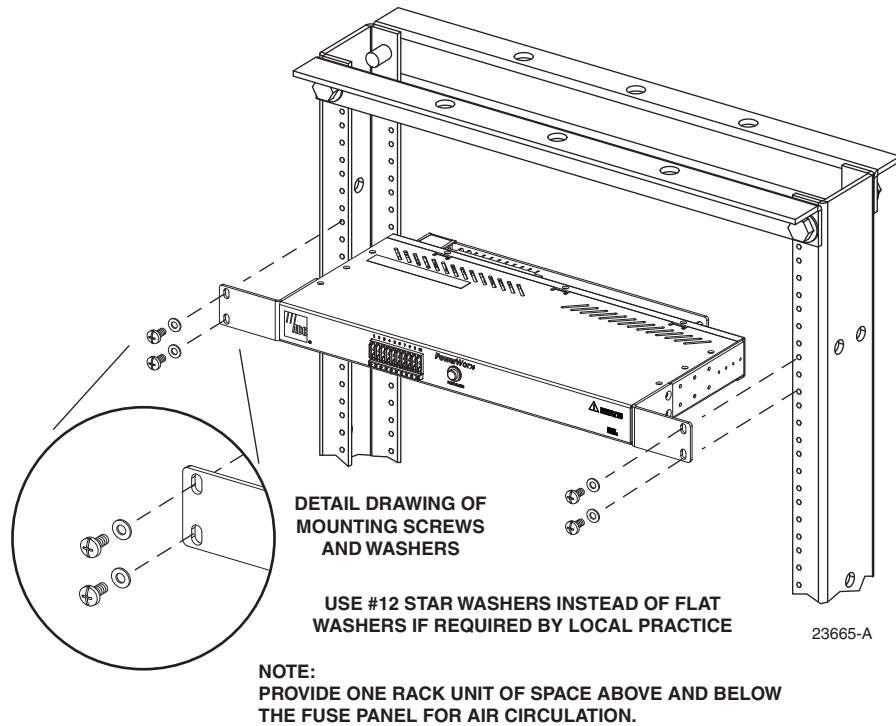

Figure 14. Mounting the Panel on the Rack
5. Fasten the panel to the rack using the hardware provided, as shown in Figure 14. Tighten the screws to 27 pound-force inches (3.1 Newton-meters).
► **Note:** Figure 14 shows a single height (standard access) panel with a specific width mounting bracket. The panel being installed could be a double-height (total front access) panel. The mounting brackets could be either the specific width type or universal type.